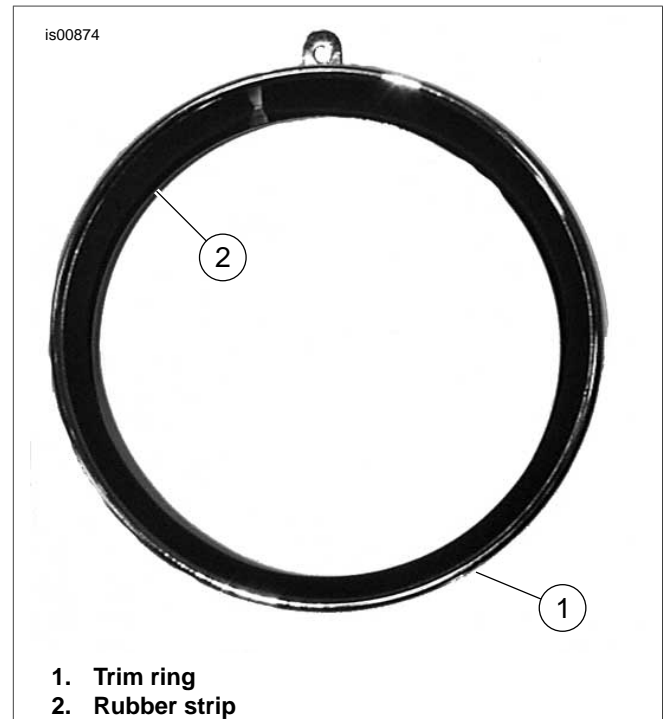

Figure 1. Trim Ring with Gasket
2. See Figure 1. If not already installed, place one rubber strip (2) in trim ring (1).